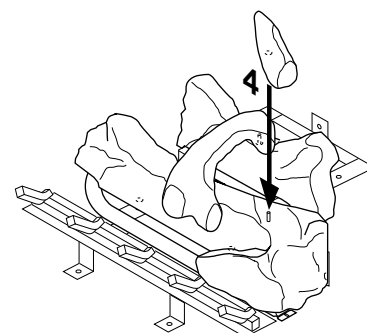

Figure 49 - Installing Log No. 4
4. Place log #4 (small, round log) on the pin on the right side of front log as shown in Figure 49.